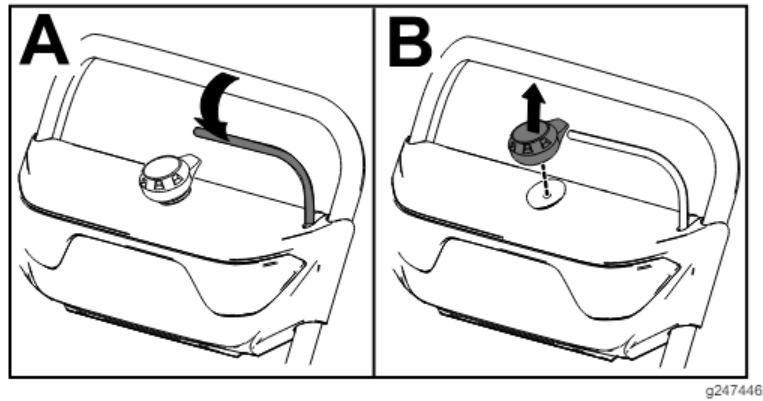

Figure 10
1. Release the bail (A of Figure 10).
2. Remove the electric-start button from the electric starter (B of Figure 10).